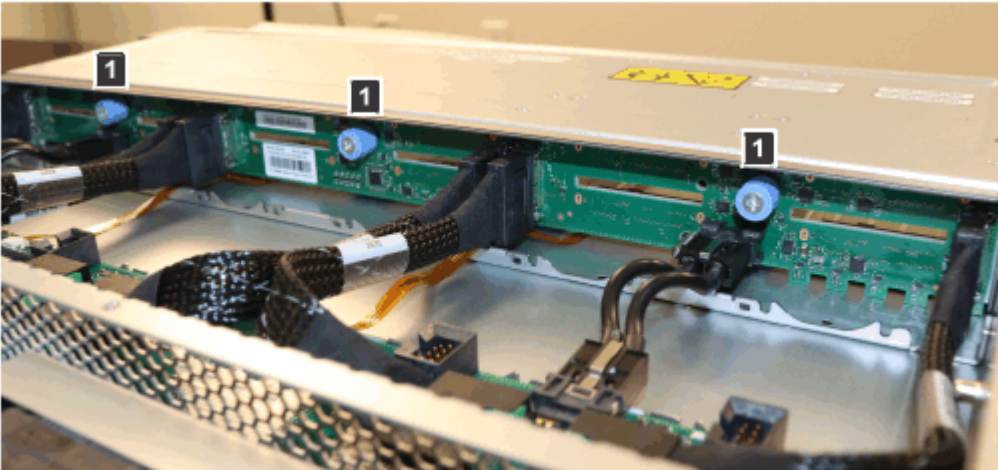

Figure 82. Drive midplane captive screws
13. To remove the drive midplane, loosen the three blue captive screws **1** shown in Figure 82 on page 140 by hand, or by using a Philips screwdriver if necessary.